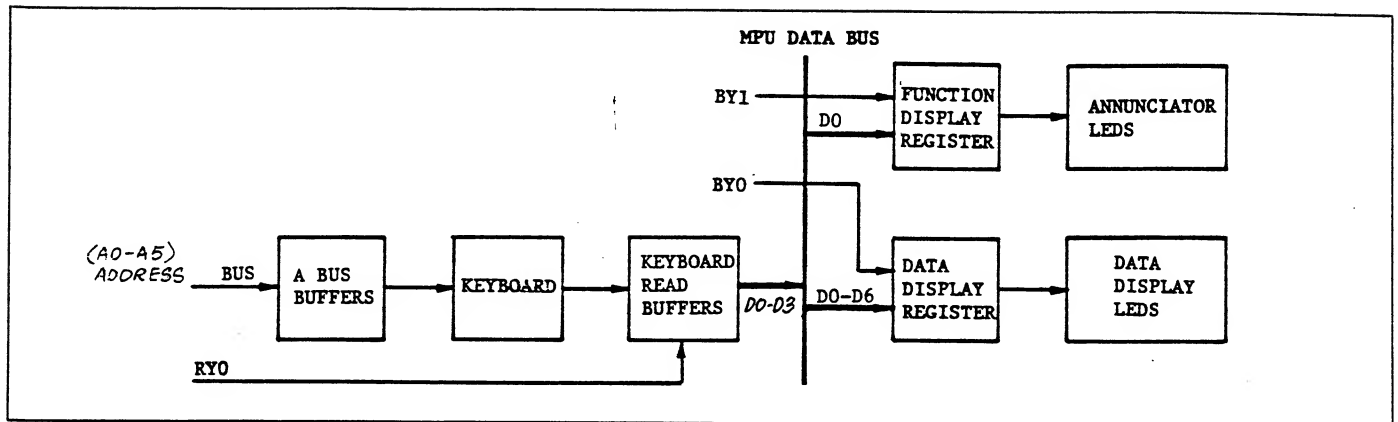

Figure 5.27 - Display/Keyboard
5.4.3.3.1 The Display/Keyboard (Figure 5.27) provides for input of function and range information and for the display of data and operational statuses.